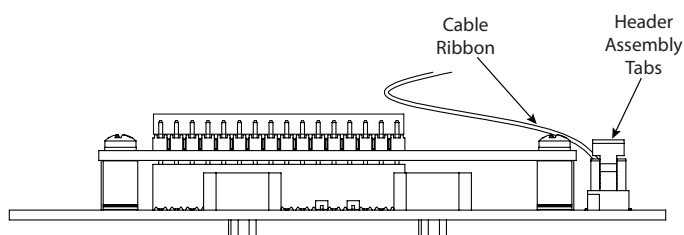

Figure 29: Release cable ribbon
5. Open the tabs on the header assembly to release the cable ribbon connector. See *Figure 29*.